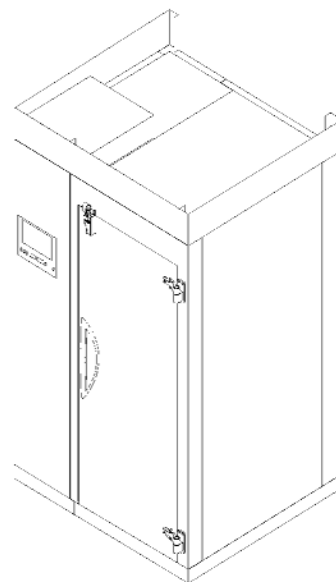

Fig 13
11. Assemble the top surrounds with the screws provided. (Fig. 13)